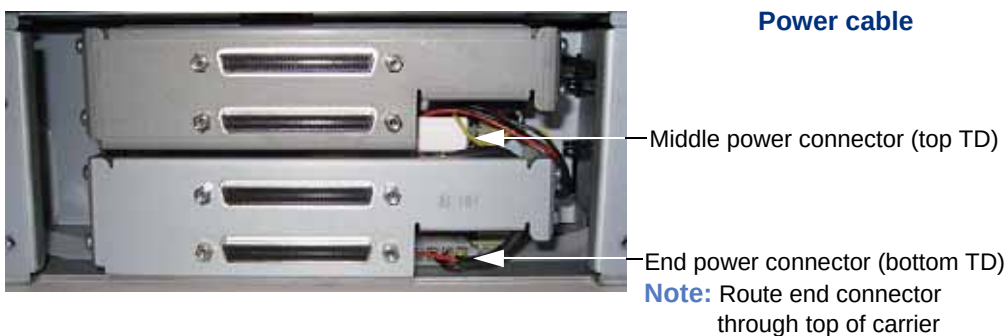

Figure 7-4 Power cable routing— **IBM half height SCSI tape drive**
- e. Connect the power cable(s) to the tape drive. Ensure that the power cable is not wrapped around the serial cable. See Figure 7-4 through Figure 7-7 on page 173 for correct power cable routing information.